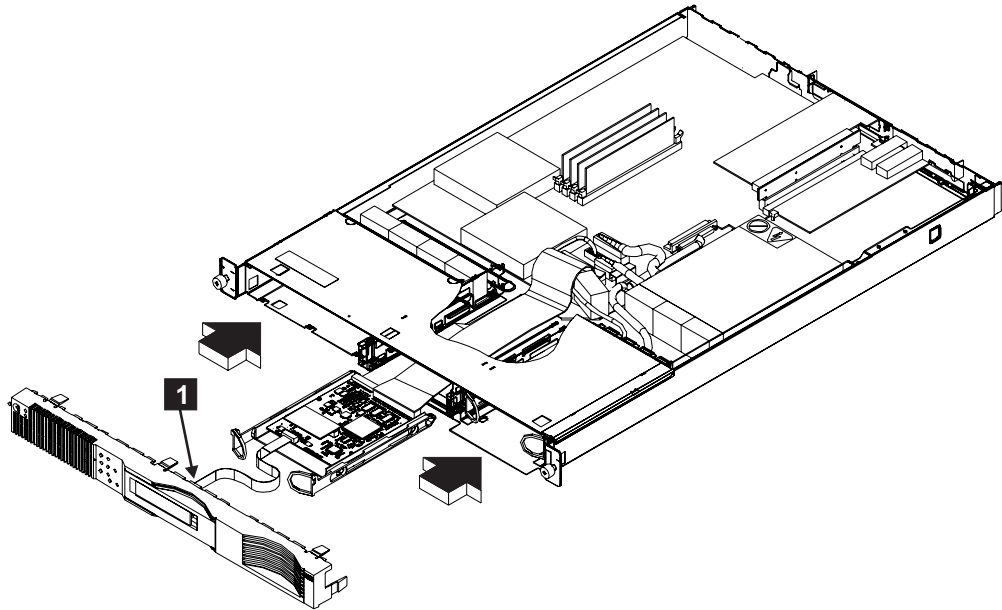

Figure 94. Replacing the front panel
1. Connect the cable **1** to the front panel. See Figure 94 on page 264.